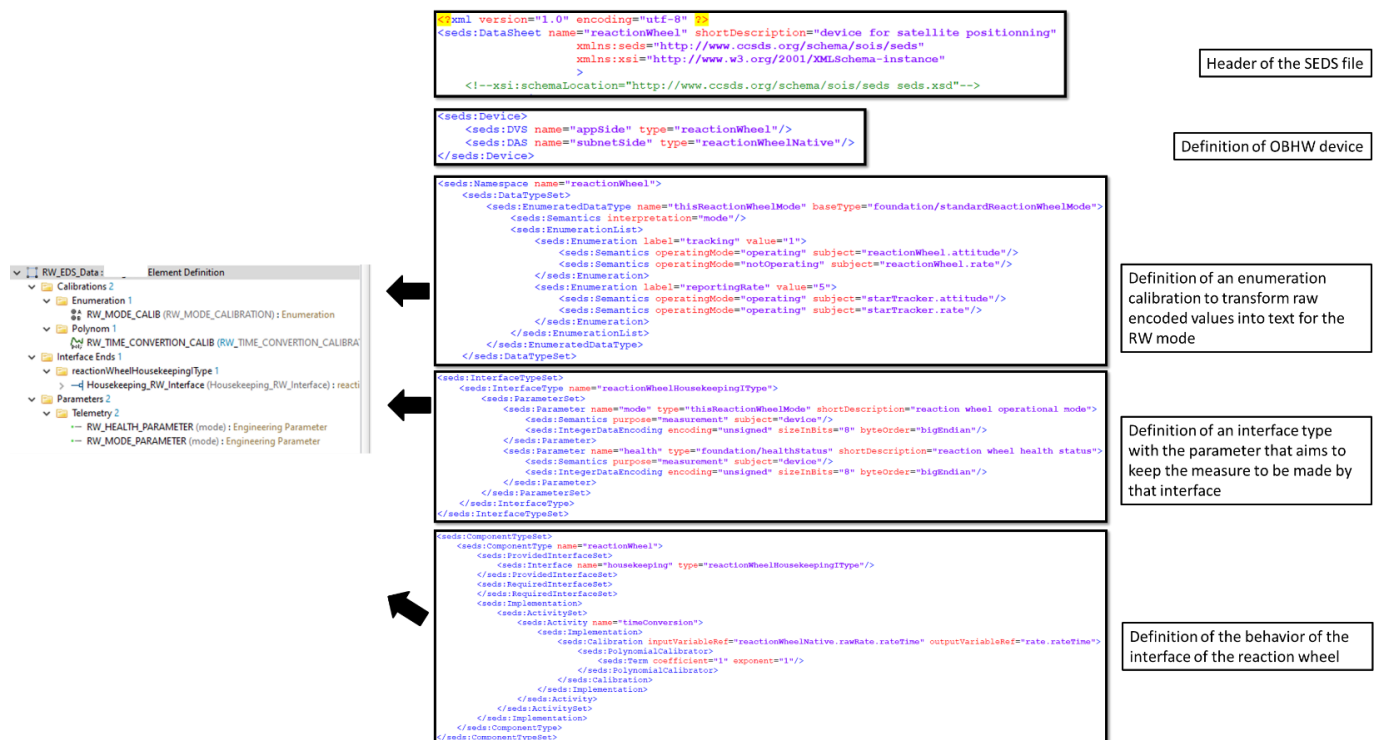

Figure-3: Mapping between SEDS file and its data imported in the SRDB
- In order to missionize the OBSW parameter (RW_PARAMETER_1), it is first necessary to import the data that will be used for the missionization. The **RW_EDS_Data** definition system element shown in Figure-1 contains the data **imported from the reaction wheel's SEDS** discussed in our paper. We map the content of that SEDS (on the right) with the SRDB content (on the left) in Figure-3.